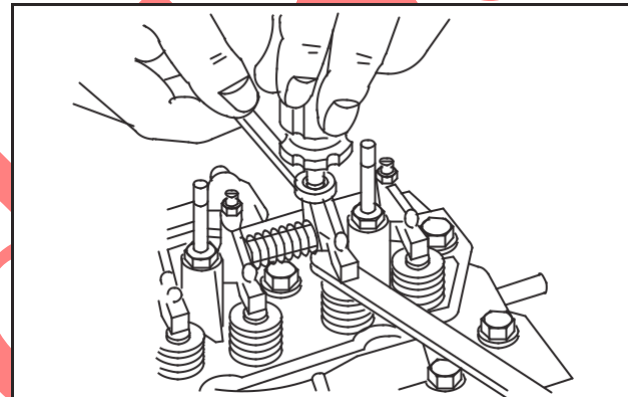

Fig. 43 – Adjust Valve Clearances
- a. Adjust valves and check, Fig. 43.